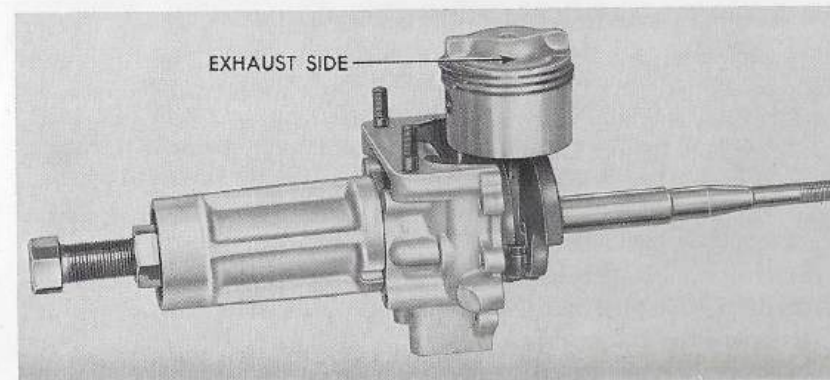

Figure 27—Assembling Crankshaft
(2) Assembling Crankshaft in Crankcase (Figure 27).